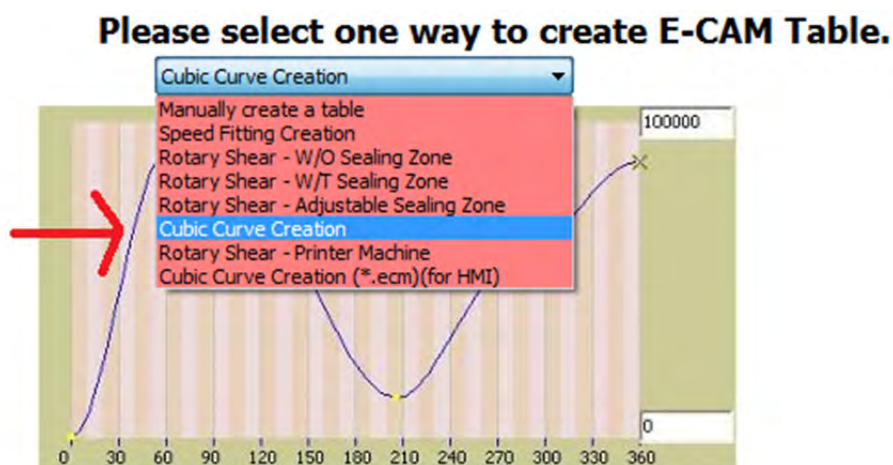

Figure 4.2.13 Select the Way to Create E-Cam Table
2. Select *Cubic Curve Creation*. See Figure 4.2.13.